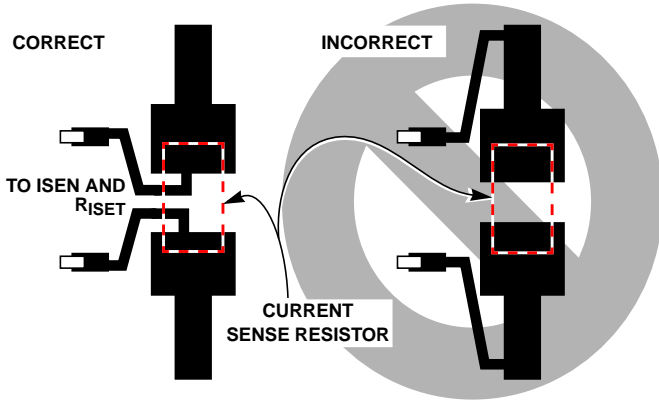

FIGURE 1. SENSE RESISTOR PCB LAYOUT
**Physical layout of  $R_{SENSE}$  resistor** is critical to avoid the possibility of false overcurrent occurrences. Ideally trace routing between the  $R_{SENSE}$  resistors and the HIP1015 and HIP1016 is direct and as short as possible with zero current in the sense lines. (See Figure 1.)